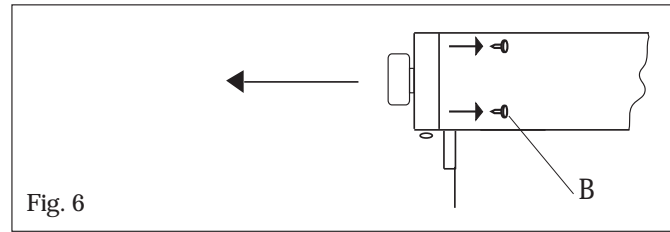

Fig. 6
- To disassemble the control panel, unscrew the 4 internal screws (B) fixing the control panel to the oven face ( fig 6 ).